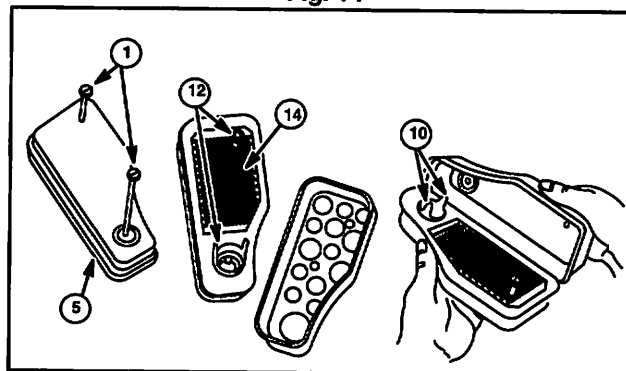

Fig. 15
1. Remove screw(s) (1) and lift off complete air cleaner.
3. Clean spacer(s), element support, screen, cup (3), body (4), and cover (5), (when used).
4. Clean Oil-Foam® element (6) as described on page 11.
5. Insert element support, when used, (15), into body (4), making sure that carburetor air intake aligns with cutout in blower housing. Place Oil-Foam® element and diverter shield into body. Assemble one of the low points (2) toward narrow edge of element. Make sure that lip (7) of Oil-Foam® element extends over edge of body all the way around to assure a protective seal.
6. Install spacer(s) (12) with tangs up (if present) Fig. 15. Install screen (14), diverter shield (13), and cup (3) (when used).
8. Seat air cleaner gasket (8) between body (4) and carburetor and re-install air cleaner assembly on carburetor.